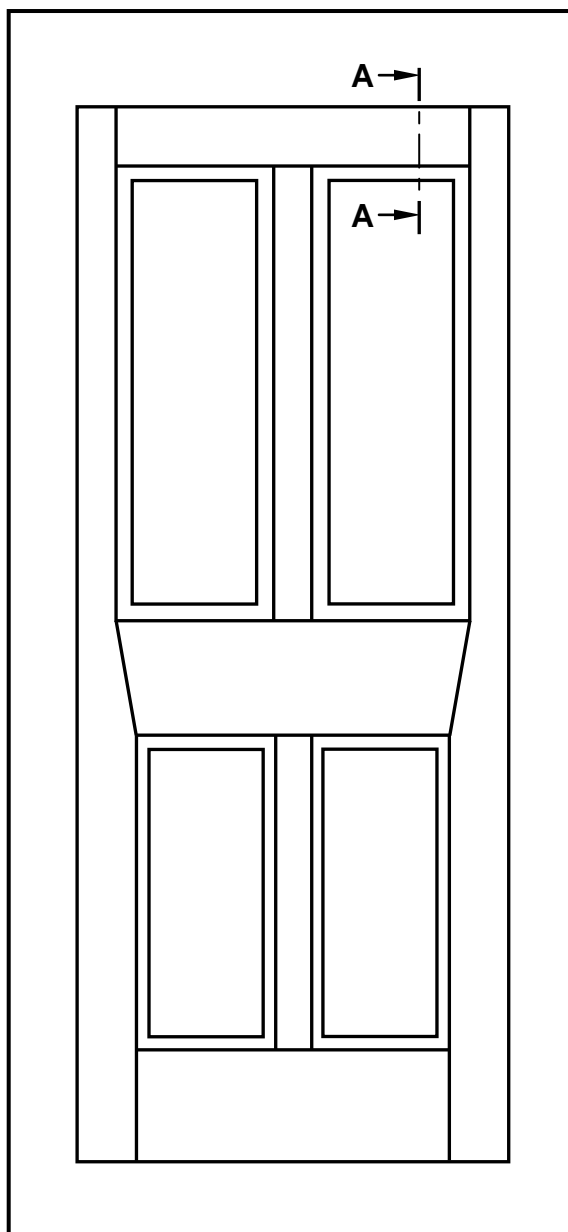

FIGURE 6.6
- DO NOT show hidden detail. (6)
6.6 FIGURE 6.6 shows the front view of a four-panel door with a lock rail, diminishing stiles and raised panels. Section line **A-A** is also indicated on the drawing.